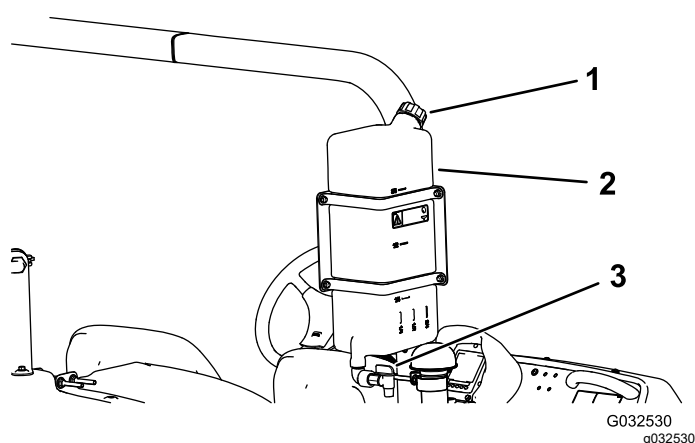

Figure 29
- To fill the tank, unscrew the cap at the top of the tank, fill the tank with fresh water, and install the cap (Figure 29).
- To open the fresh-water tank spigot, turn the lever on the spigot (Figure 29).